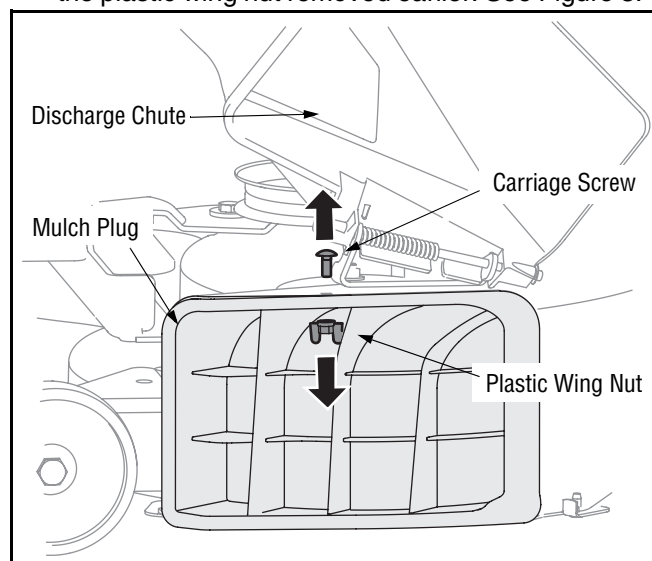

Figure 3
2. Pivot the discharge chute upward as shown in Figure 3 and carefully insert the mulch plug into the discharge chute opening.
3. Reinsert the carriage screw down through the deck surface and mulch plug and secure it in place with the plastic wing nut removed earlier. See Figure 3.